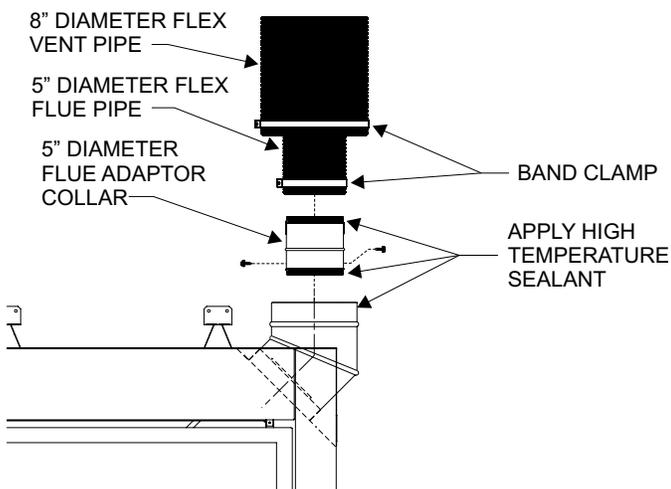

Figure 57
5. Install the Wall Firestop/Thimble assembly as required through the wall. Refer to the venting charts in the fireplace manual to determine the proper height and size of the vent opening. The minimum opening should be 10in wide by 12in high. The minimum combustible clearance from the horizontal vent is 1in from sides and bottom, and 3in above the vent pipe. See **Figure 57**.
- Apply sealant to the outside of the flue pipe adapter and connect to the flex flue pipe. Then insert the adapter into the 45° elbow's inner flue pipe. Secure flue adapter with a minimum of two screws provided. **See Figure 57.**